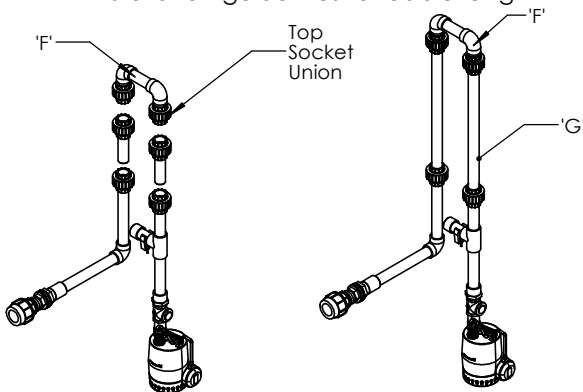

Fig. 5
- Reassemble the IPS pipework with supplied IPS extension pipework 'G' (Fig. 5).